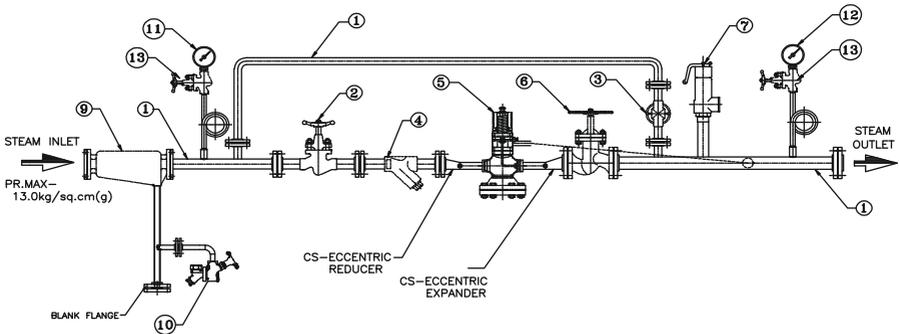
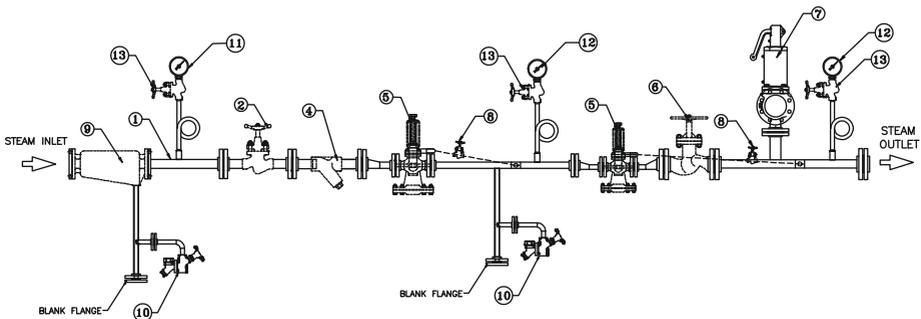

Figure 3 : Recommended installation of DSPRV41
Figure 4 : Installation of Two DSPRV41
The valve should always be fitted in a horizontal pipeline with the main diaphragm chamber below the line (figure 3). For pressure turn down in excess of 10 to 1 consideration should be given to using the two valves in series. To avoid instability pipework volume between the valves should be equivalent to at least 50 pipe diameters in length of the intermediate correctly sized pipework. To ensure adequate drainage of the space between the two reducing valves a trap set should be fitted as shown in figure 4.
6. Startup and Commissioning : [Refer figure 3]